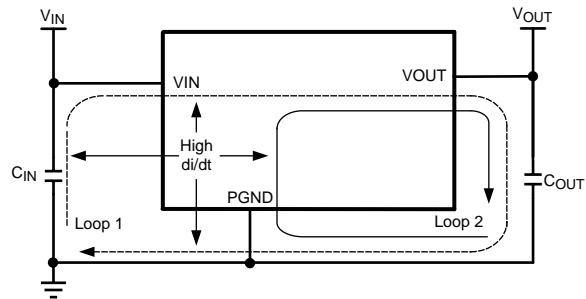

Figure 53. Critical Current Loops to Minimize
From an EMI reduction standpoint, it is imperative to minimize the high di/dt paths during PCB layout as shown in Figure 53. The high current loops that do not overlap have high di/dt content that will cause observable high frequency noise on the output pin if the input capacitor (C_{IN}) is placed at a distance away from the LMZ12008. Therefore place C_{IN} as close as possible to the LMZ12008 VIN and PGND exposed pad. This will minimize the high di/dt area and reduce radiated EMI. Additionally, grounding for both the input and output capacitor must consist of a localized top side plane that connects to the PGND exposed pad (EP).